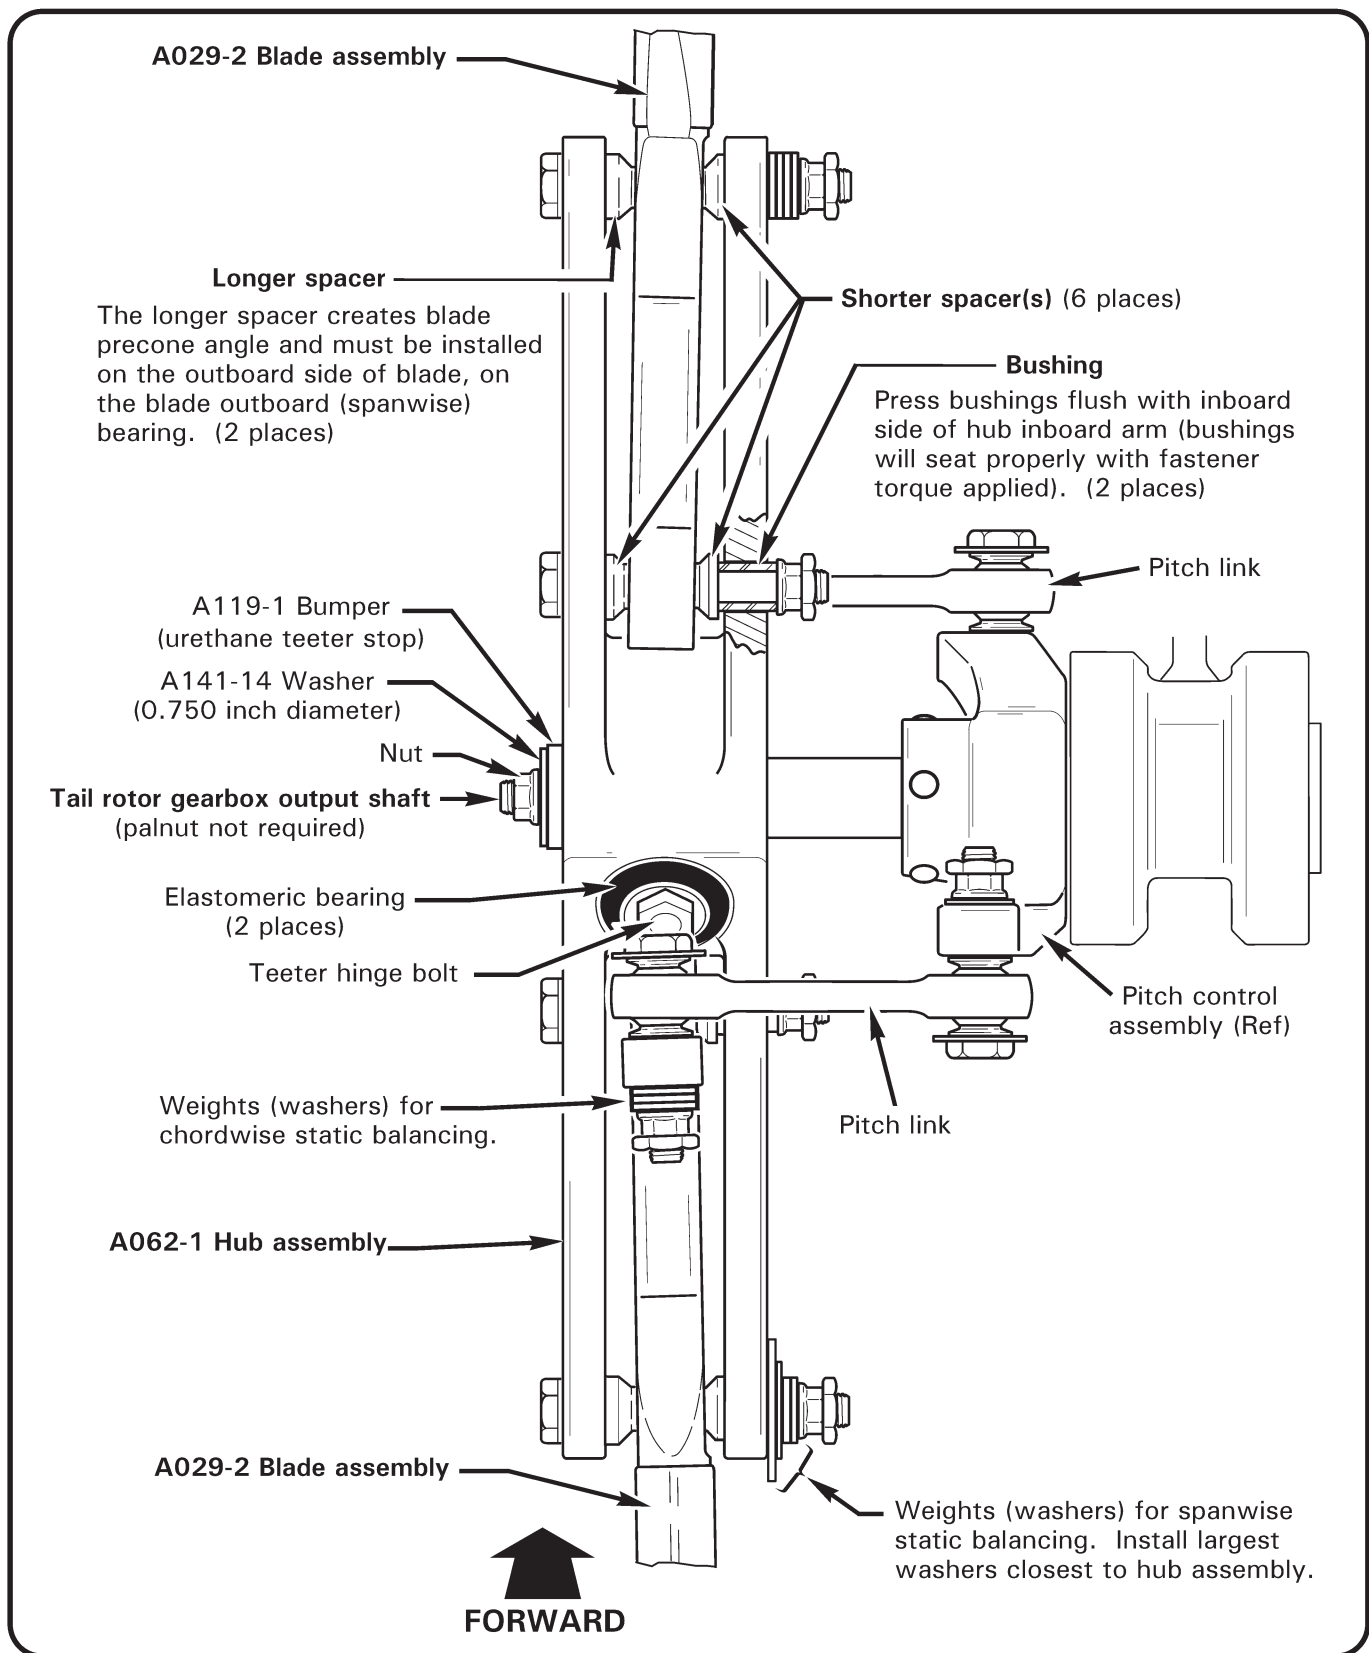

FIGURE 9-11 TAIL ROTOR ASSEMBLY INSTALLATION (A008-4 ASSEMBLY SHOWN)
Refer to Figure 9-11.
Ensure blades are installed in proper direction of rotation, and large A137-2 spacers installed per Figure 9-11.
2. See Figure 9-11. Verify blades cone toward tail rotor gearbox.
8. Assemble blades to hub. Verify counterclockwise direction of rotation. Verify correct orientation of bolts and correct location/orientation of A137-1 & A137-2 spacers per Figure 9-11. Torque bolts per Section 1.320, install palnuts, and torque stripe.